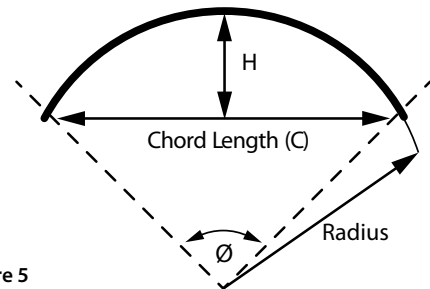

Figure 5
2. Measure the corresponding chord length (C) – Refer to Figure 5
3. Measure the corresponding centre offset (H) – Refer to Figure 5